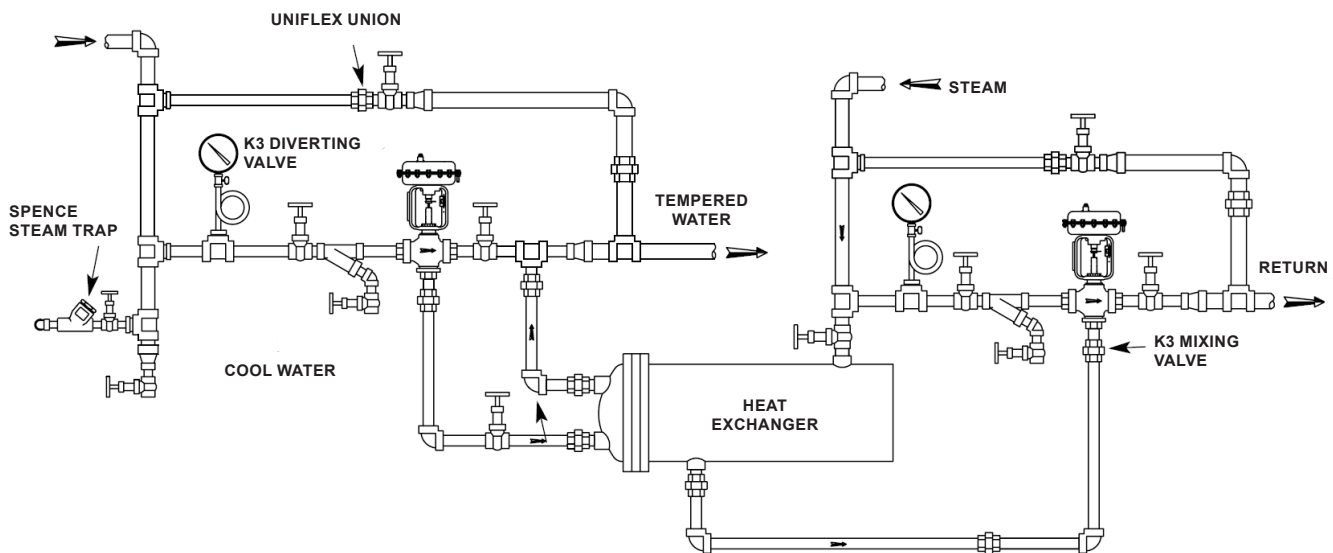

Figure 4. Type K3 Control Valve Recommended Installation for Steam Application
- Locate the valve in a straight run of horizontal pipe as shown in Figure 4. Mount the valve with the actuator in the upright position. Allow room for removal of the actuator.